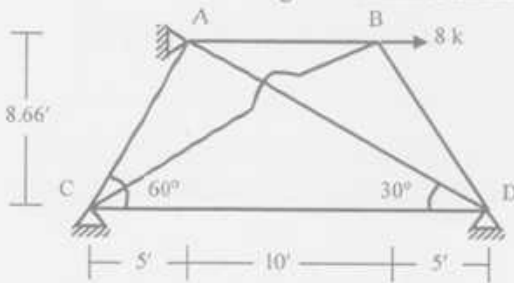

Fig. 1
1. For the truss shown below in *Fig. 1*, ignore the zero-force members and apply the boundary conditions to assemble the global stiffness matrix and the global load vector.